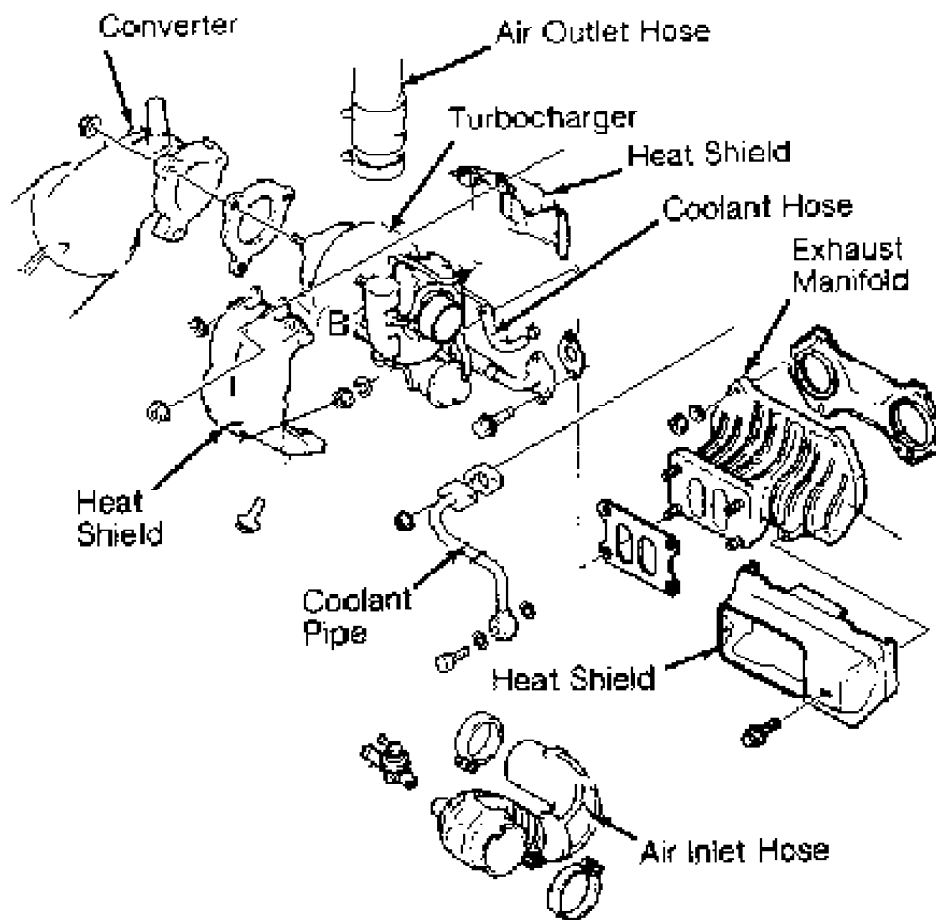

Fig. 35: Exploded View of Turbocharger & Exhaust Assembly (RX7)
1) Drain coolant. Disconnect air inlet and outlet hoses from turbocharger. Remove airflow meter air hose. Remove air pump. Remove air control valve. Remove split air pipe. Disconnect water hose and water pipe. See Fig. 35.
Information is not available from manufacturer. See Fig. 35 for exploded view of turbocharger and exhaust assembly.